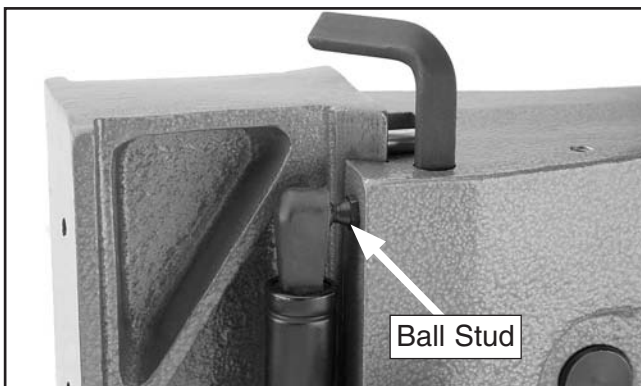

Figure 11. Gas spring attached to top of headstock.
- Snap the gas spring ball sockets onto the ball studs, as shown in **Figures 11 & 12**.